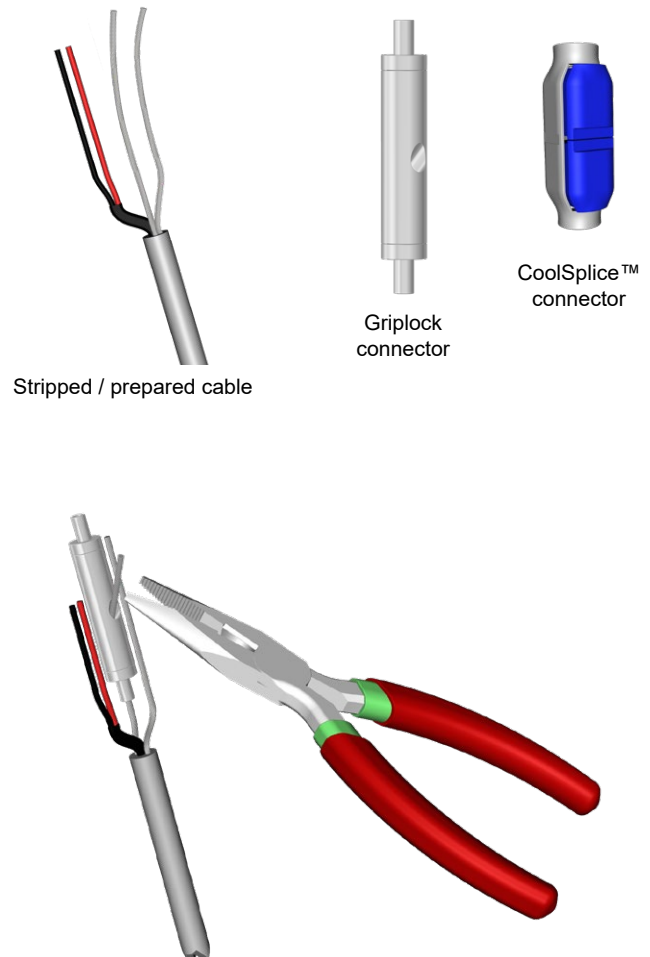

Figure 10. Pull cable through each Griplock
1. Insert one support cable into the bottom end of a Griplock and push it up until the end of the cable protrudes from the side hole at least 1" (25mm) (Figure 10).